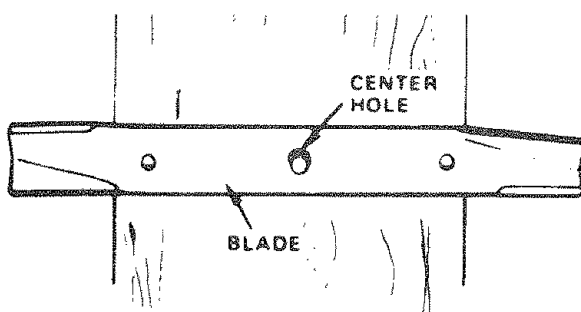

FIGURE 21
- To check blade balance, drive a nail into a beam or wall. Leave about one inch of the straight nail exposed. Place center hole of clean blade over the head of the nail (Fig. 21). NOTE: CENTER HOLE OF BLADE ON NAIL. IF BLADE IS PROPERLY BALANCED, BLADE SHOULD REMAIN IN POSITION SHOWN IN FIG. 21. IF EITHER END OF THE BLADE MOVES DOWNWARD, BLADE IS NOT BALANCED. SHARPEN THE HEAVY END UNTIL BLADE IS BALANCED.